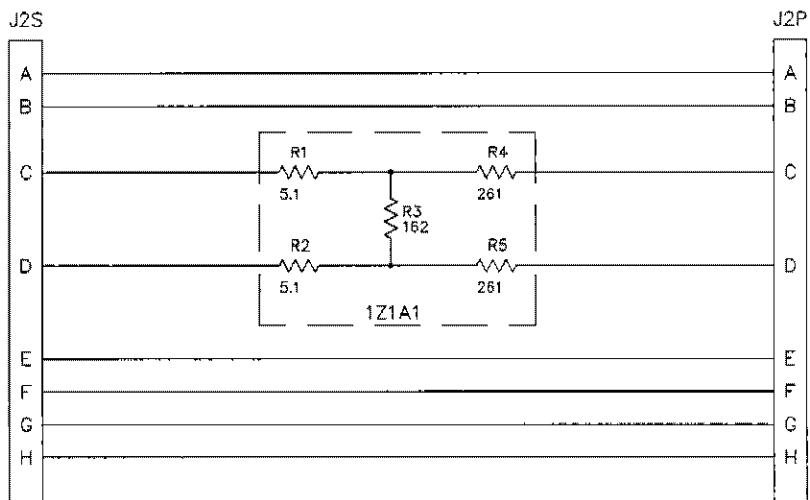

Figure 11-1. Impedance Matching Network 1Z1
7.4 FAULT ISOLATION. - If any of the measurements listed in section 7.3 do not meet tolerance criteria, use the circuit diagram, figure 11-1, for troubleshooting assistance. \*